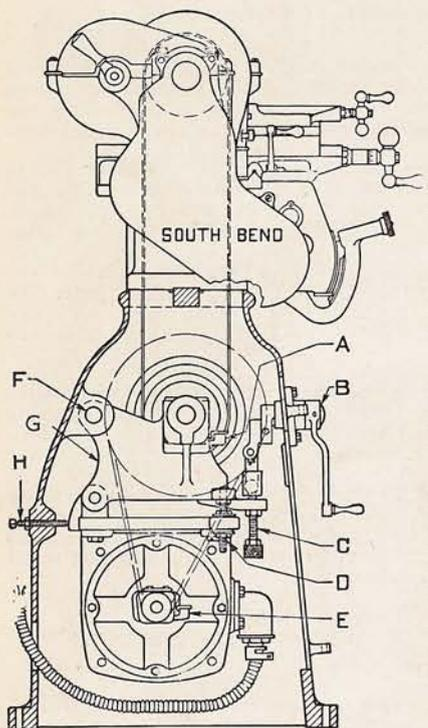

Fig. 1. Cross Section End View of Underneath Belt Motor Driven Lathe.
Motor and Driving Unit are enclosed in the cabinet leg under the headstock. Attached to Cradle (G) Fig. 1, are the countershaft and electric motor. The belt tension release lever (B) controls the position of the cradle and countershaft. When lever (B) is in the "Up" position the entire driving unit is lifted vertically about $1\frac{1}{2}$ " so the spindle belt may be shifted. When lever (B) is in the "down" position the driving unit is in position for the operation of the lathe. (A) and (E) are oil cups for lubricating bearings.
Fig. 1. South Bend Underneath Belt Motor Driven Bench Lathe with Section of Bench Front Cut Away to Show Drive Mechanism. Bench used is illustrated and described on page 56.